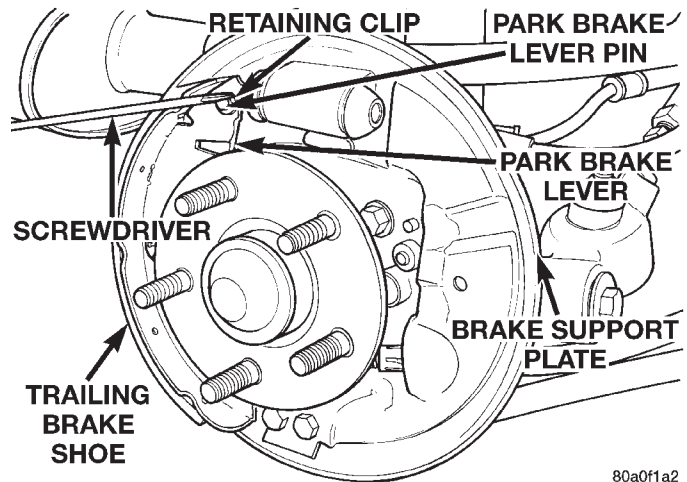

**Fig. 65 Park Brake Lever Retaining Clip**
(10) Remove the retaining clip (Fig. 65) holding the park brake actuating lever to the trailing brake shoe.